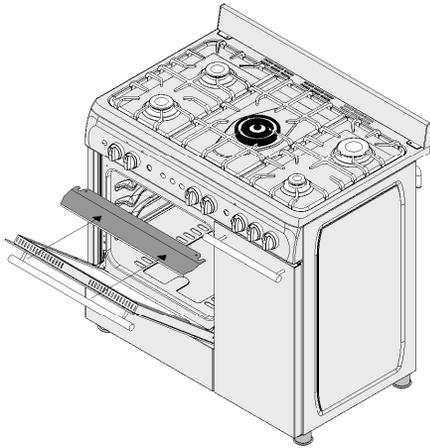

Figure 2
3. Place the safety panel under control panel by opening the oven front cover glass (Figure 2)